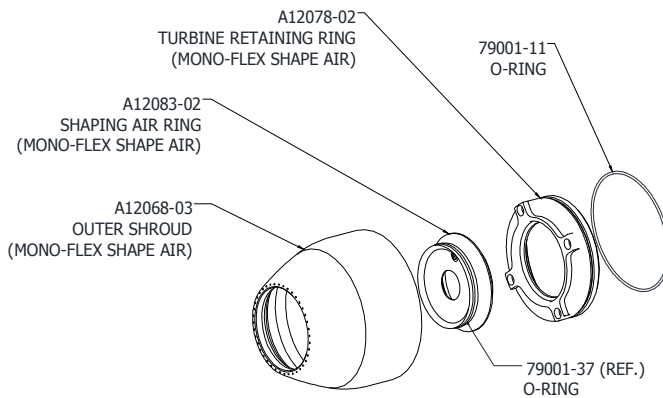

Figure 7: A12874-07 Shaping Air Kit (Mono Flex Shape Air)
8. **Color Change Sequence** - Used when color is changed one to the other. Typical sequence is shown in Figure 7. **(Note: During this sequence, the applicator should be moved to a position to collect the waste material.)** The sequence shown is a starting point for processing, but the final sequence